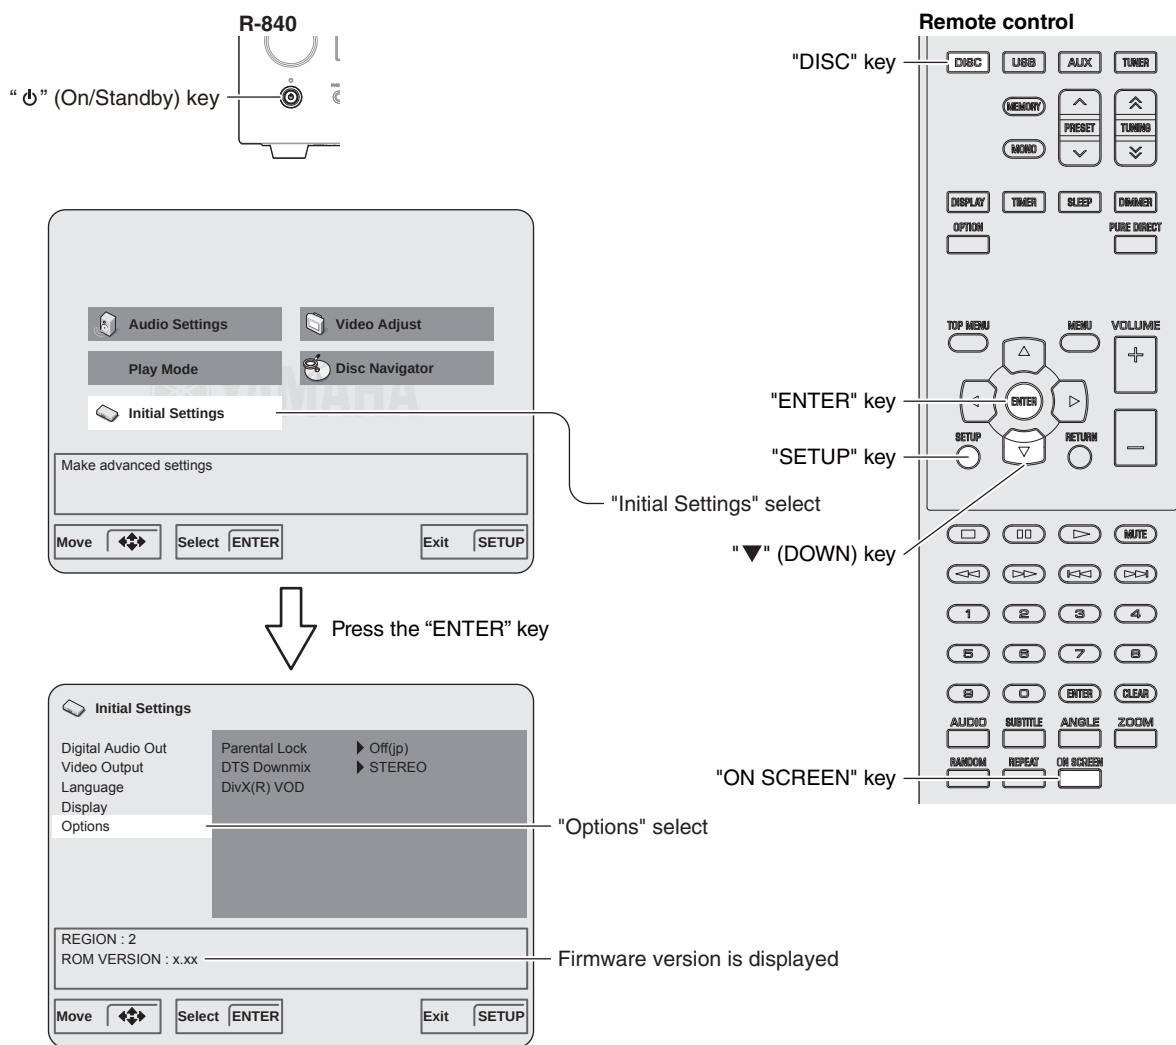

Fig. 2
The SETUP menu is displayed on the TV monitor screen. (Fig. 2)
4. Move the cursor to [Initial Settings] by pressing the "▼" (DOWN) key on the remote control and press the "ENTER" key. (Fig. 2)
The firmware version is displayed. (Fig. 2)